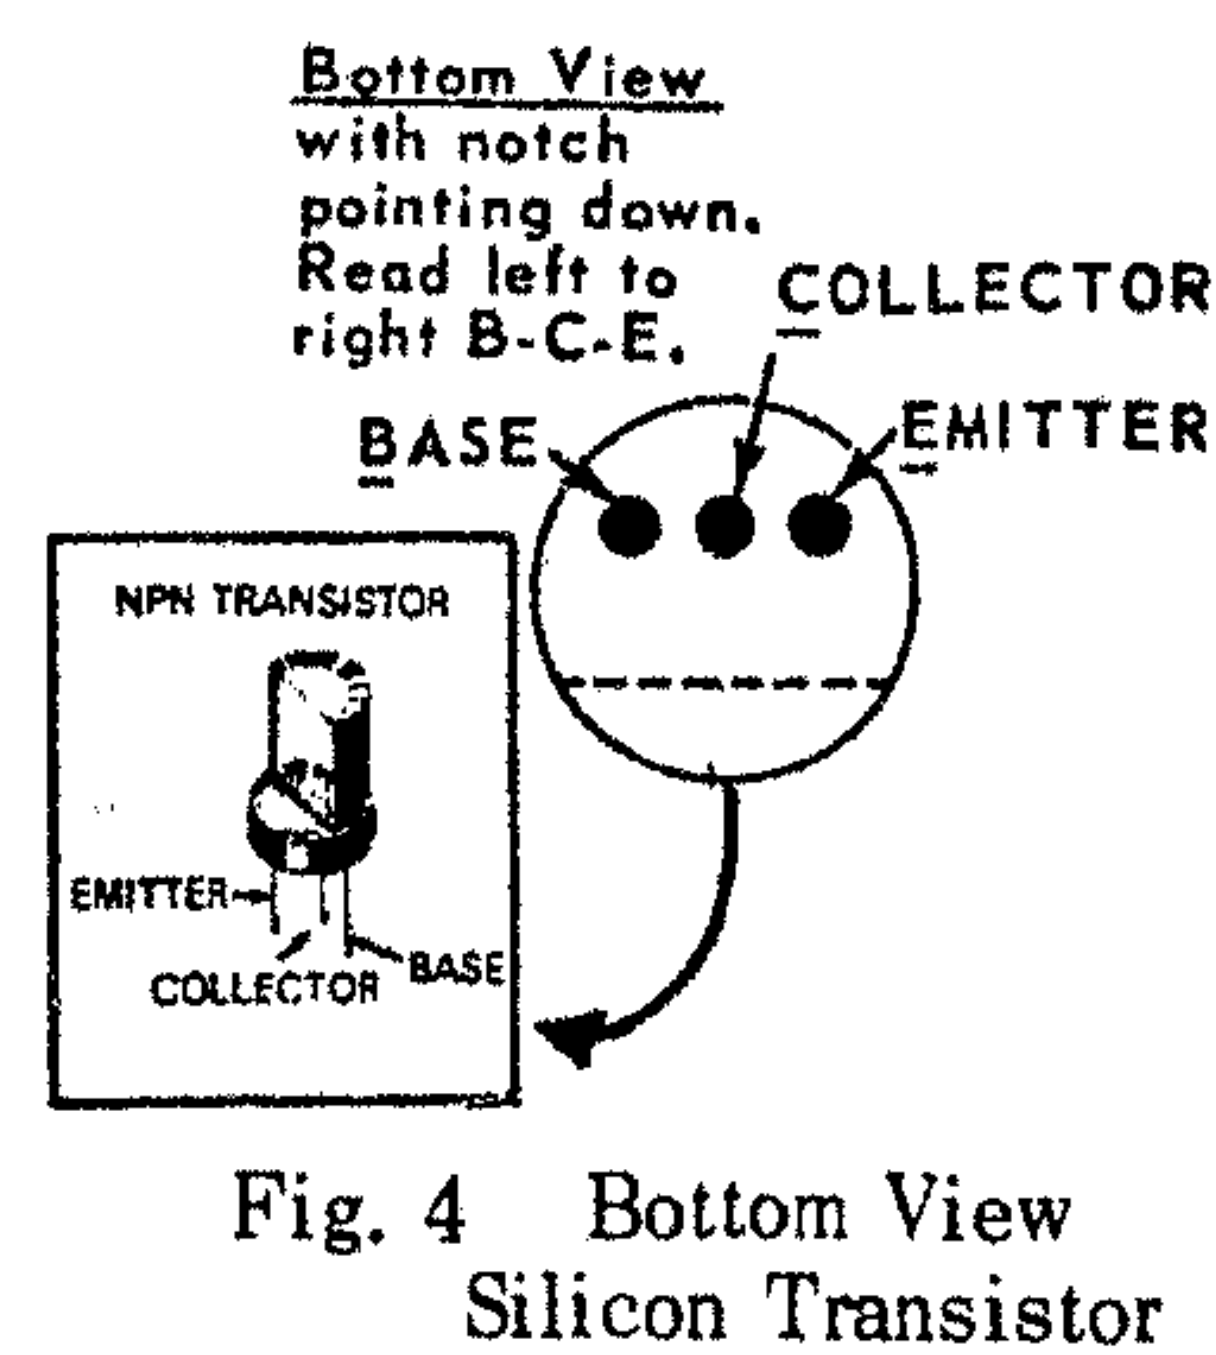

Fig. 4 Bottom View
- 23. Place transistor Q_2 in holes 48, 49, & 50. Base goes in hole 48, collector in hole 49, and emitter in hole 50. See Fig. 4, page 17, for identification of elements in silicon transistors. Hold transistor in right hand with thumb nail in slot and index finger on top of transistor. Leads should point toward you. Read left to right alphabetically. Base on left, collector in middle, and emitter on right. Top of transistor should not be any higher than the capacitors. Bend leads to hold the transistor in place. Do not solder.